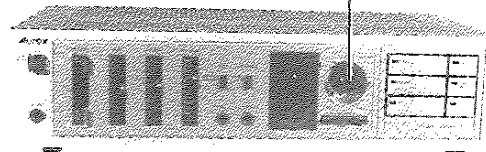

Figure 8
3. Remove the hexagon nut (E) holding the ring under the tuning knob as shown in Figure 8.